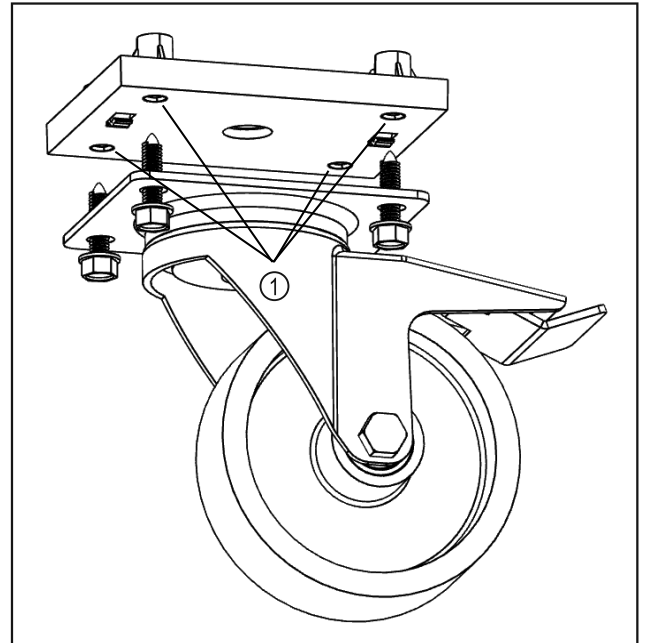

Fig. 9
- ▶ Mount optional castors at the indicated places. Fig. 9 (1)